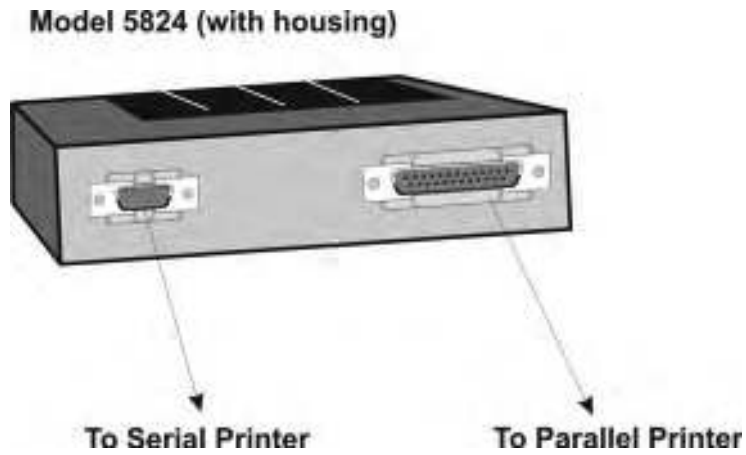

Figure 4-20 Printer Connection
- 5. Connect a printer to the 5824 as shown in Figure 4-20.